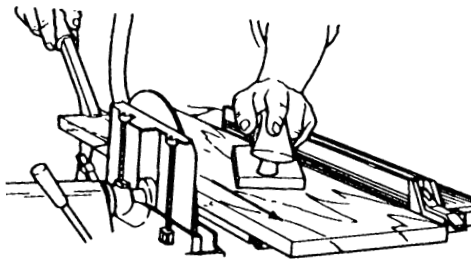

Figure C-22
4. Turn on the machine, and feed the stock slowly from the back of the table toward the front. See Figure C-22.